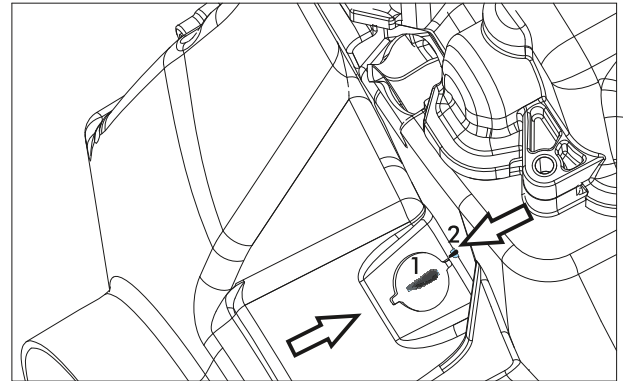
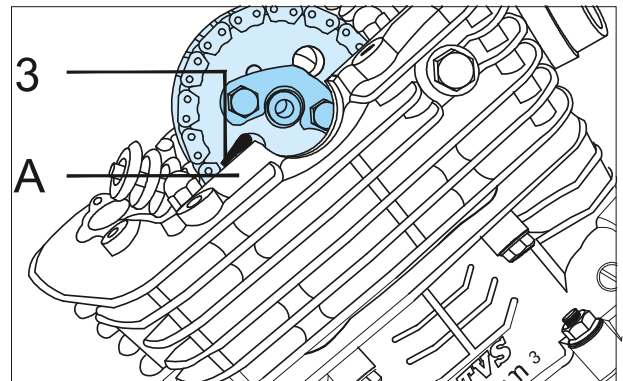

Fig. 3.155
Fig. 3.156
- Ensure 'T' mark (1) on the magneto rotor matches with the '--' mark (2) on crankcase L. Hold the sprocket such that the horizontal line (3) on the sprocket is parallel with the cylinder head bottom surface (A) (Fig. 3.155 and Fig. 3.156)